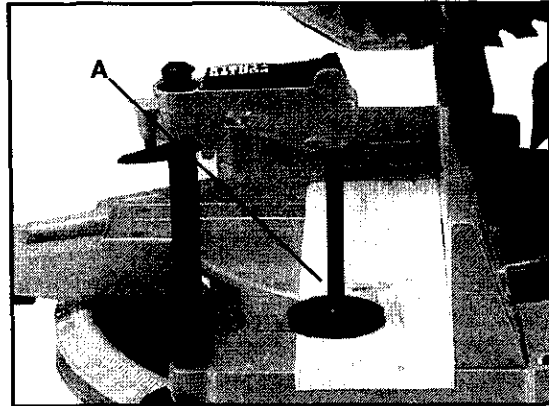

Fig. 35
3. Place the workpiece on the table and hold or clamp it firmly against the fence. Fig. 35 illustrates the optional work clamp (A) being used to clamp a workpiece to the fence and table.
4. **WARNING:** If the workpiece causes your hand to be inside the table hazard area (see section "TABLE HAZARD AREA"), clamp the workpiece in place before making the cut, as shown in Fig. 35.